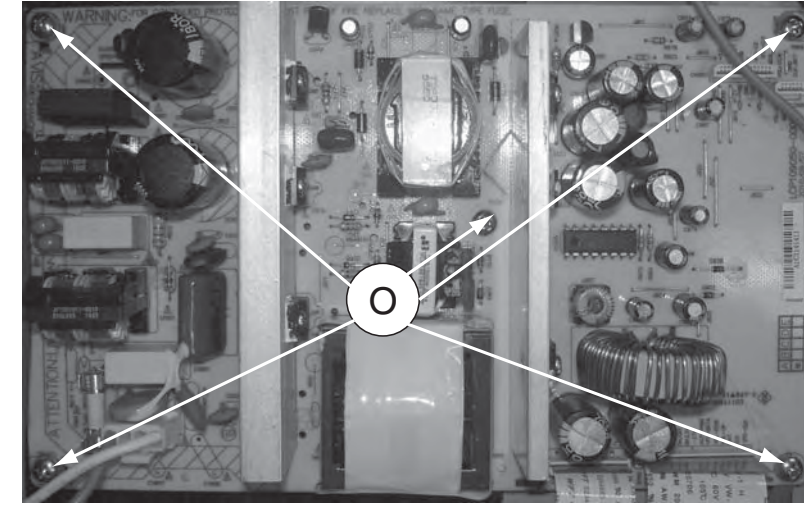

Figure 12
- 1) Loosen 5 screws "O" on the top of power Board as shown in figure 12.